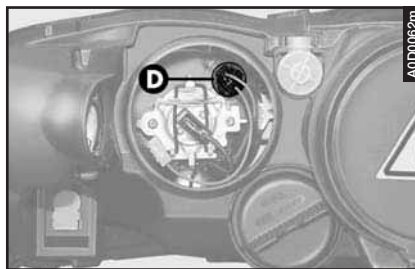

fig. 33
- Press the two retaining tabs and remove the bulb holder (**D- fig. 33**).